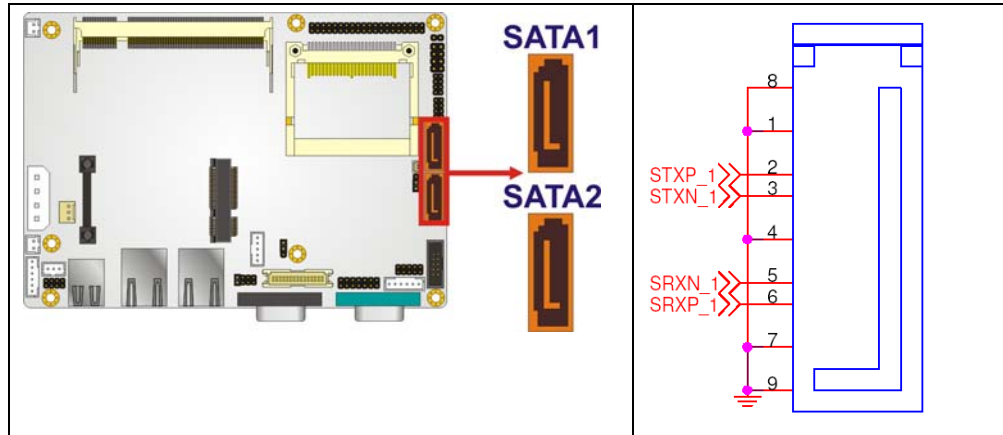

Figure 3-10: SATA Drive Connector Locations
- CN Location:** See **Figure 3-10**